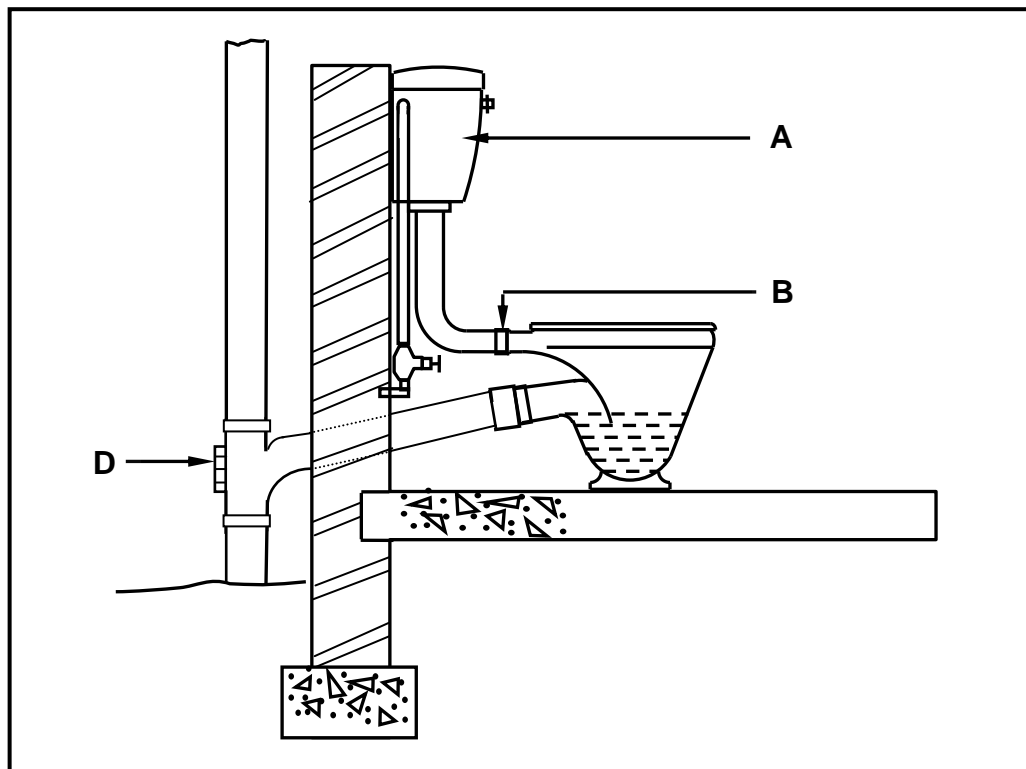

FIGURE 6.3
- 6.3 FIGURE 6.3 below is a drawing of the sectional view through a part of a building showing the installation of a water closet. Study the drawing and answer the questions that follow.
6.3.5 A ball valve is found inside part **A** in FIGURE 6.3 and regulates the water level. In your ANSWER BOOK, draw a neat line diagram of a ball valve as seen from the direction of **A** in FIGURE 6.3. Show the following in your drawing:
- Label any TWO parts of the drawing. (5)